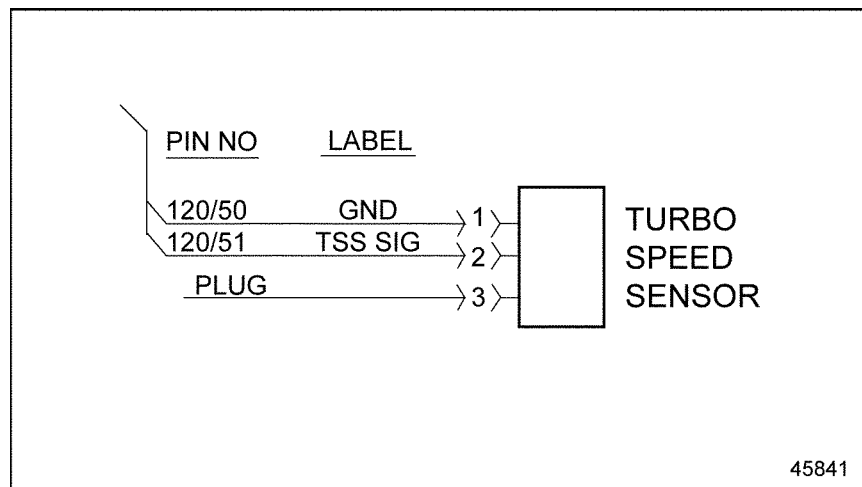

Figure 8-1 Turbo Speed Sensor Terminal and Wire Locations
2. Measure the resistance across pins 1 and 2 of the sensor (see Figure 8-1).